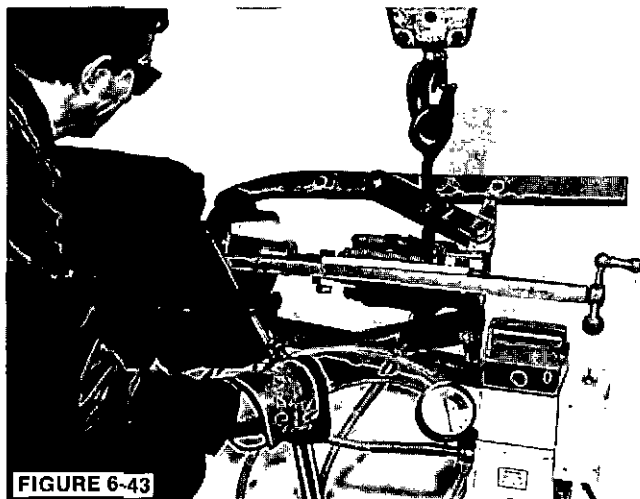

FIGURE 6-43
2. If the hub is to be replaced, remove the fan (See Item B) and install a suitable puller to the hub. Remove the two setscrews in the hub over the key. Using a torch, rapidly heat the hub at the outer diameter while tightening the puller. (This must be done rapidly before the heat can expand the shaft.) Remove the hub. (Figure 6-43.)